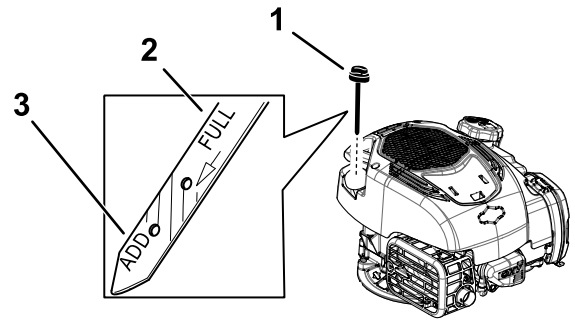

Figure 5
6. Read the oil level on the dipstick (Figure 5).